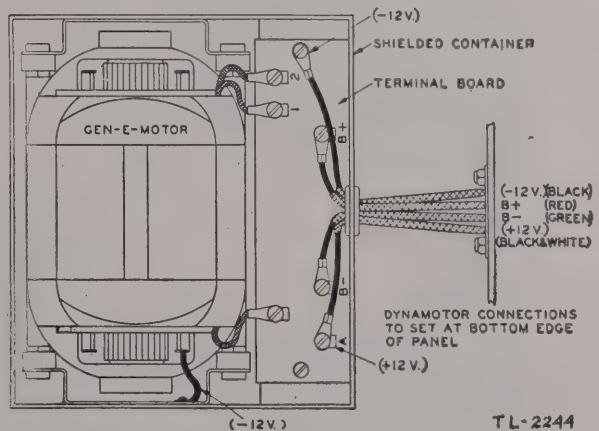

Figure 9. Dynamotor connections.
(1) In Radio Receivers BC-314-(*), replace the repaired dynamotor in the receiver and connect the dynamotor input and output leads (fig. 9). Apply the proper d-c (direct-current) voltage to terminals D and T of socket SO1.